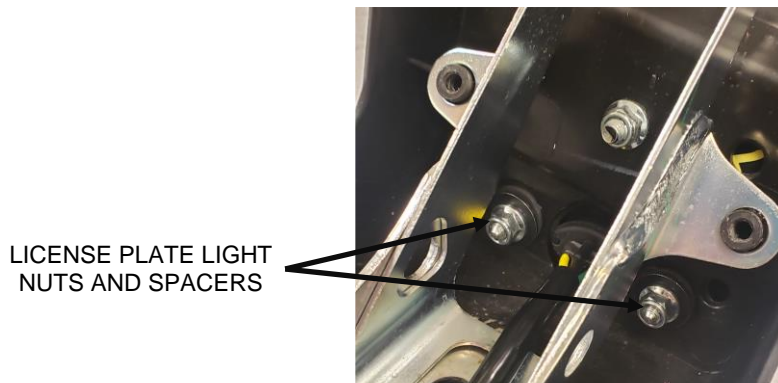

FIGURE 5
8. Remove the two nuts and spacers securing the license plate light and set aside for reuse. Remove the license plate light along with the rubber grommet from the rear fender assembly. See **Figure 5**.